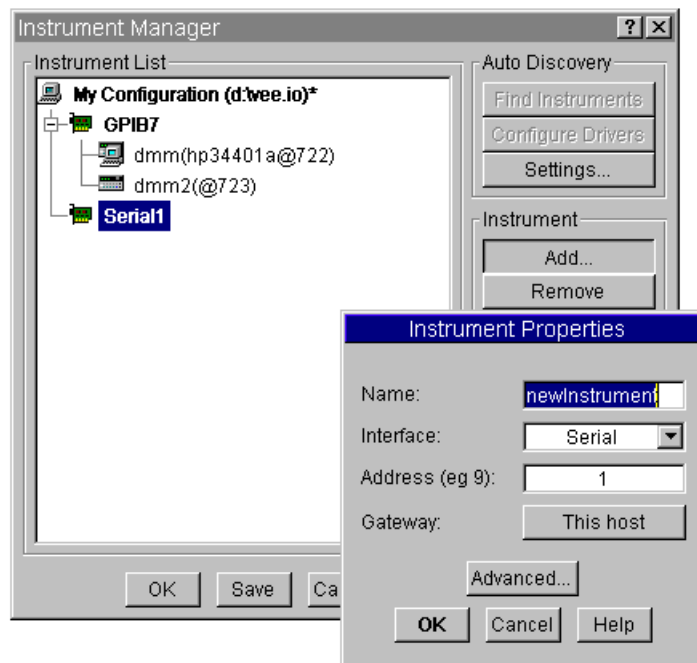

**Figure 3-19. Configuring a Serial Device**
4. You should see the dialog box shown in Figure 3-19.